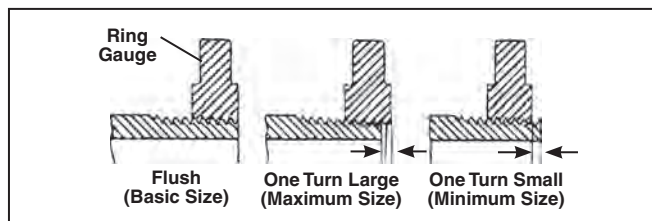

Figure 25 – Checking Thread Size
- Look at how far the pipe end extends through the ring gauge. The end of the pipe should be flush with the side of the gauge plus or minus one turn (Figure 25). If thread does not gauge properly, cut off the thread, adjust the die head and cut another thread. Using a thread that does not gauge properly can cause leaks.